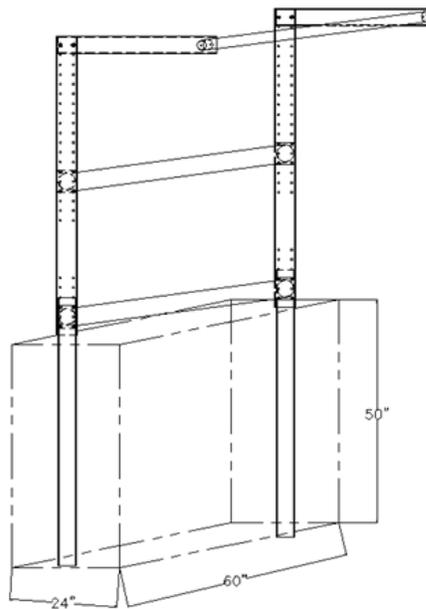

**Fig. 7**
8. Insert the 4” x 3/8” cap screws into each end of the actuator crossbar (B), using a 3/8” locknut to retain it. (Fig.7)
- **Note:** Tighten the lock nut until there is just three rows of threads passing through the lock nut. (Fig.7) Fully tighten all the remaining nuts and bolts on the barricade.